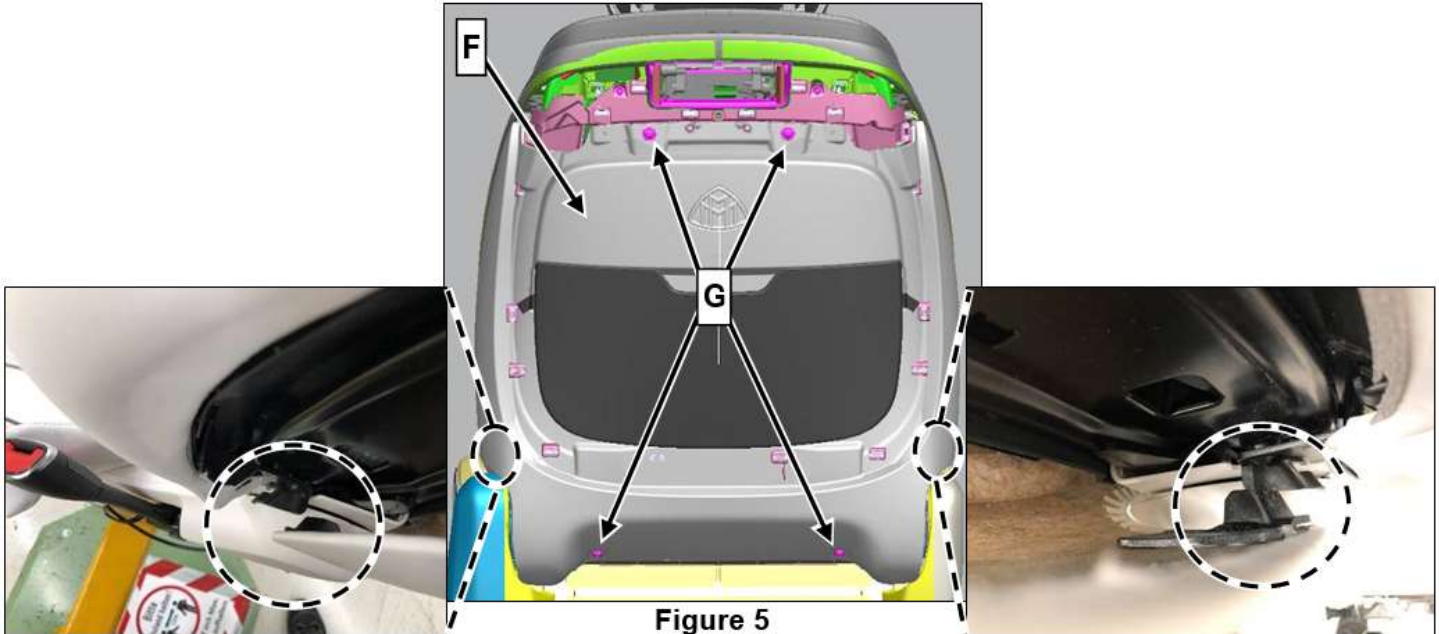

Figure 5
6. Remove seat base trim (F, figure 5).
Remove **i** screws (G, figure 5).
i Remove seat base trim toward rear and lift out of side guides (figure 5).